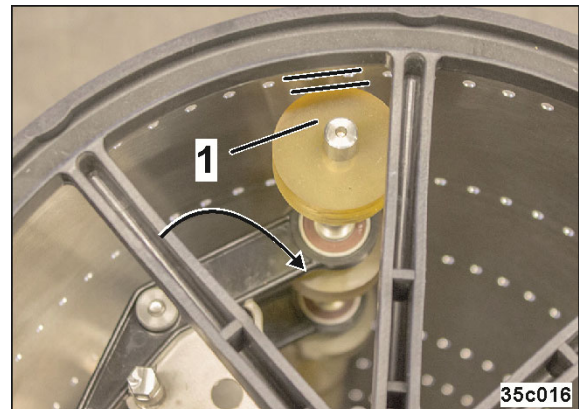

Fig. 330
4. The actuation levers (Fig. 327/2) are swivelled towards the turning axle on one side, and there is space between the hole covering rollers and the singling drum (Fig. 330/1).